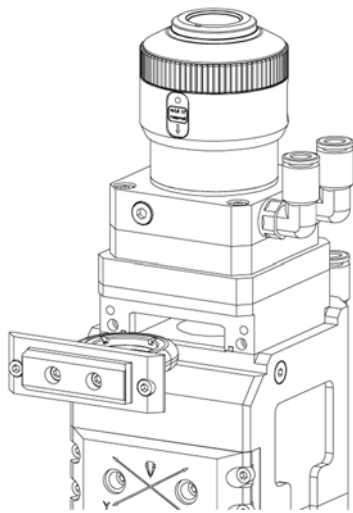

Figure 5.3 – Remove the upper protective lens holder
- Undo the screws on the lens holder with 3mm inner hexagon spanner (as shown in figure 5.3);